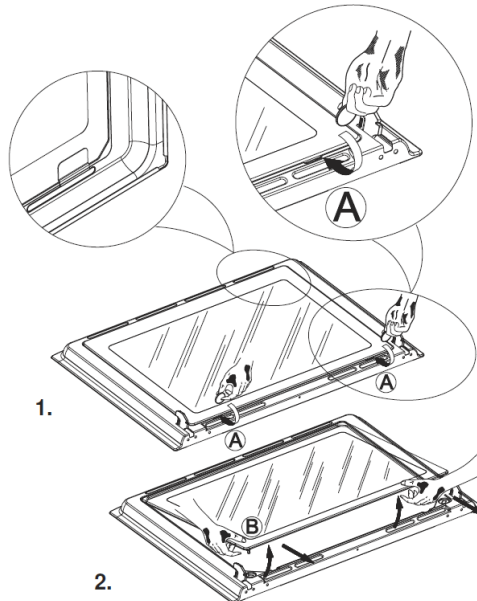

Figure 10.
1. The door with internal glass panel (Please see **figure 10** below)
To remove the oven door inner glass panel, use a coin to perform a levering action in the 2 grooves (A) until the 2 pins (B) are released from their housing (point 1). Then raise the glass as shown at point 2 and take it out from the top. To refit the door, repeat the 2 previous operations in reverse. Reinsert the glass by resting it on the inner door and pushing it in. Press on the glass until the pins slot back into their initial positions (point 2). See **figure 10** below.